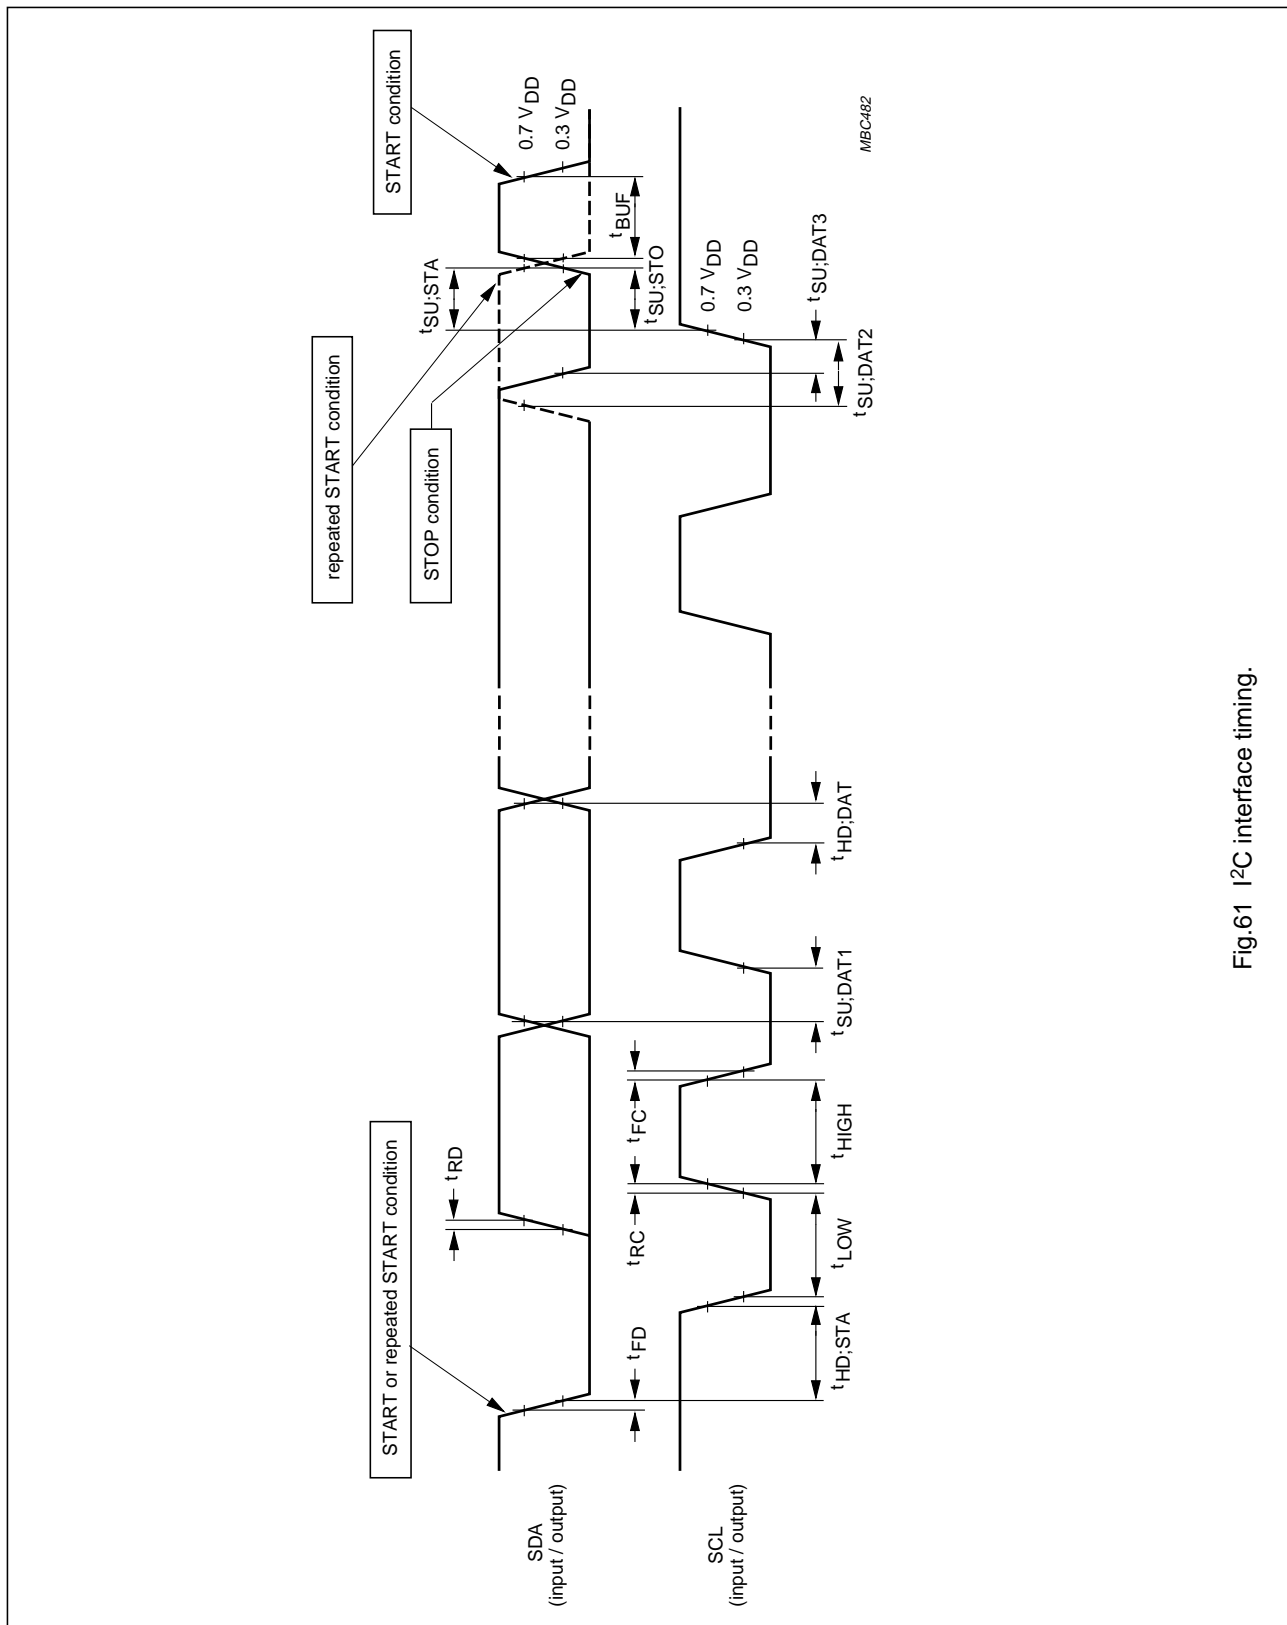

Fig.61 I2C interface timing.
**Table 112** I2C-bus interface timingAll values referred to VIH(min) and VIL(max) levels; see Fig.61.